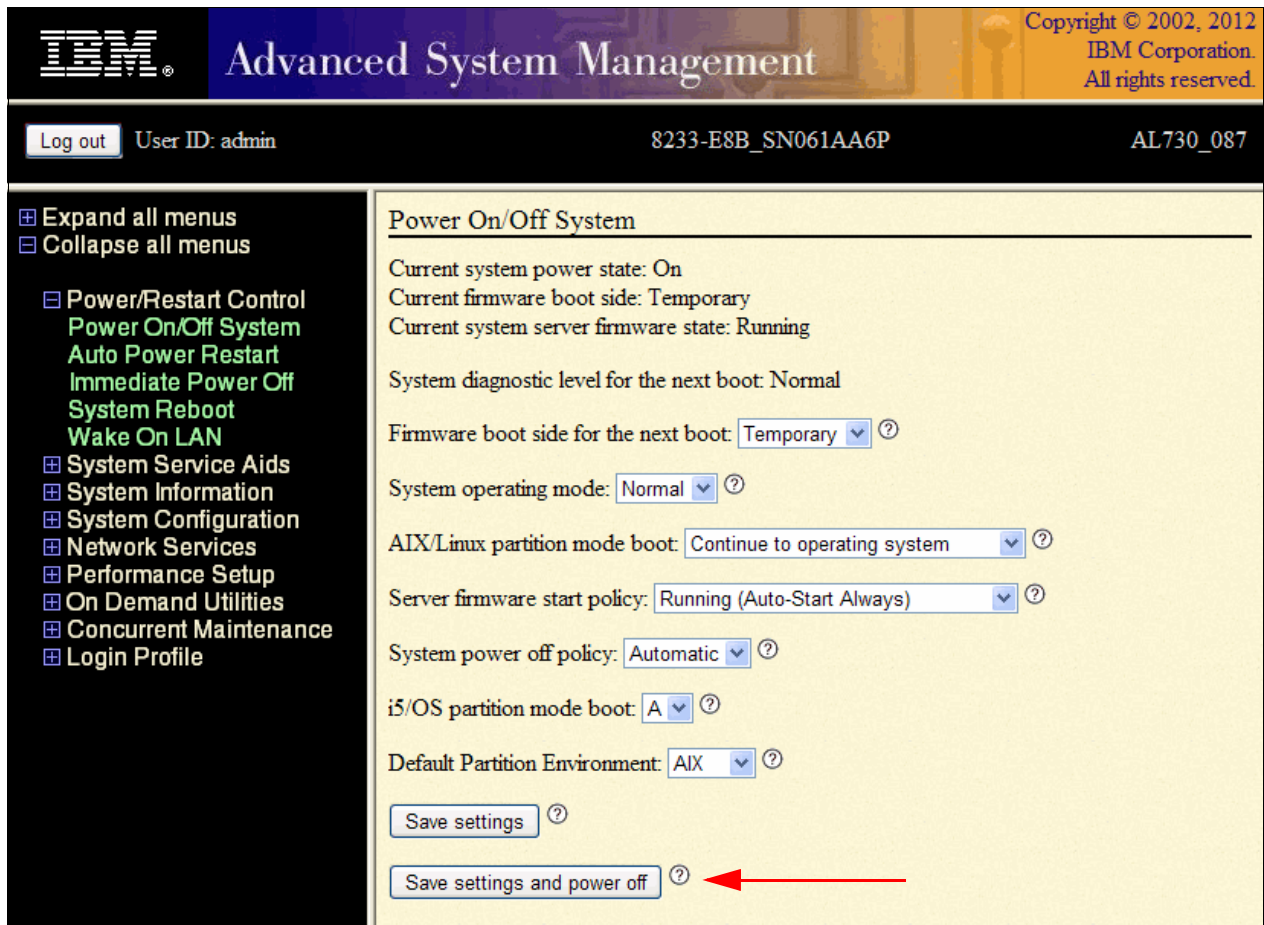

Figure 2-9 ASMI menu to bring system in running mode and power off
- Set the system in running mode and shut it off. Again, select the **Power On/Off System** menu, select **Running** for the boot to system server firmware field, and click **Save settings and power off**, as shown in Figure 2-9.